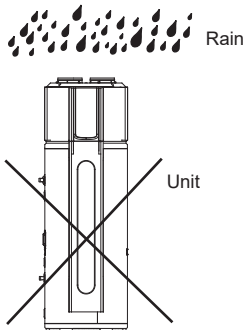

Fig.3-6
- In case of rain entering to internal components of the unit, the component might be damaged or causing physical danger.(Fig.3-6)